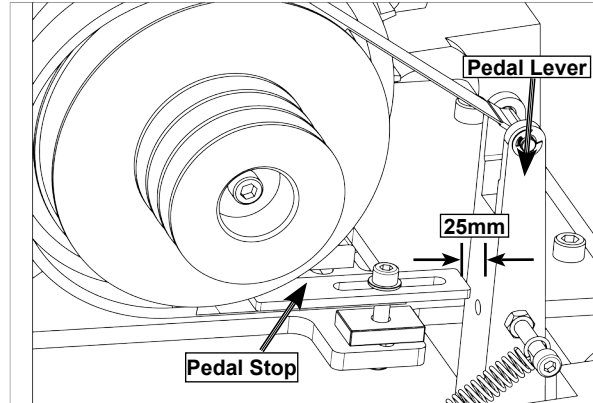

Figure 95. Pedal travel adjustment.
5. Remove pedal stop shown in Figure 95.
7. Firmly push the pedal lever (Figure 95) to the right until it stops and the brake band is fully clamped around the brake hub.
8. Tap the pedal stop into position so there is approximately a 25mm gap between the pedal lever and the stop (see Figure 95).